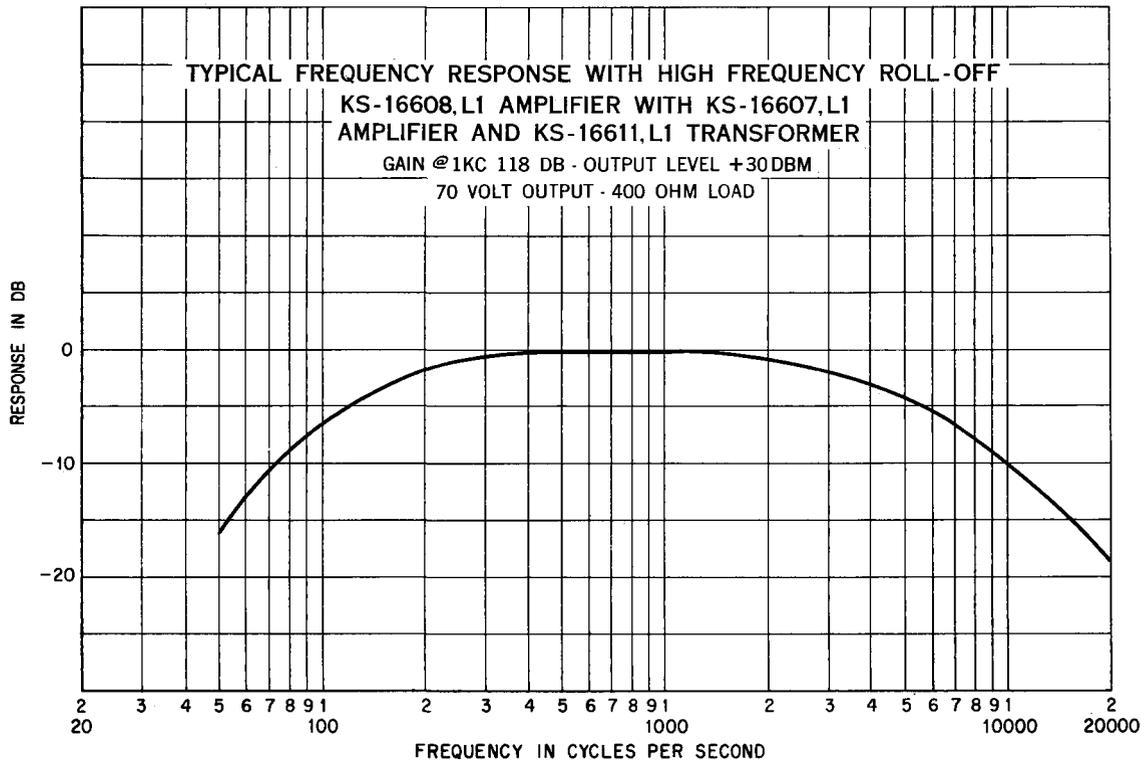

Fig. 9 – Response with High Frequency Roll-Off When Equipped with Preamp and Transformer
6.06 Fig. 9 shows the high frequency roll-off characteristics of the basic amplifier when it is equipped with a preamp and transformer. This drooping characteristic of the amplifier is used to compensate for the rising characteristic of a carbon microphone at the high end of the